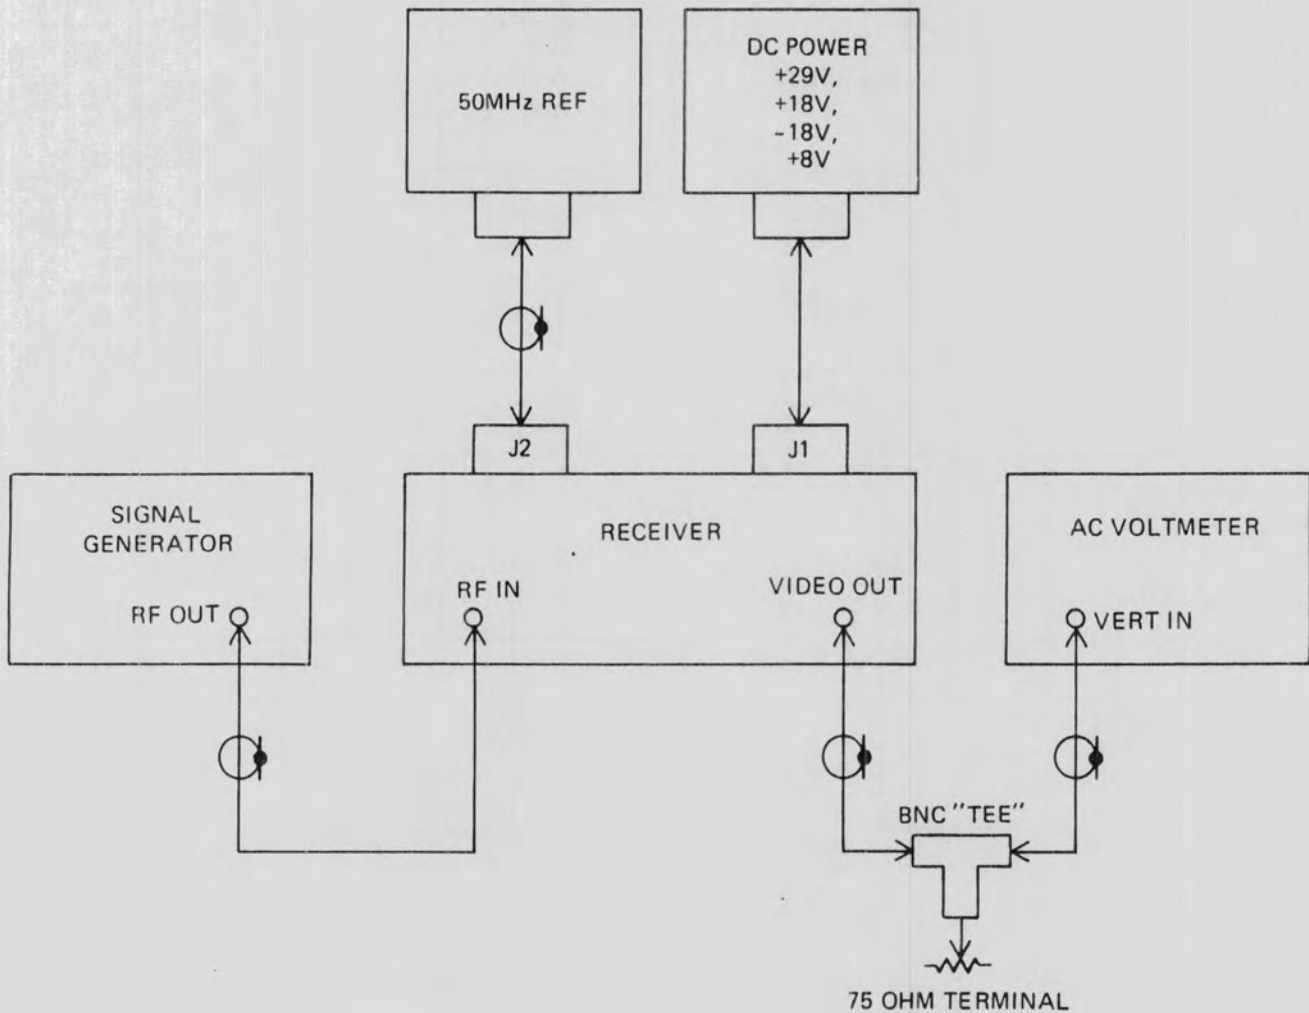

Figure 4-5. Gain Control (AM Mode) Test Equipment Setup
1. Connect the receiver as shown in **Figure 4-5**.